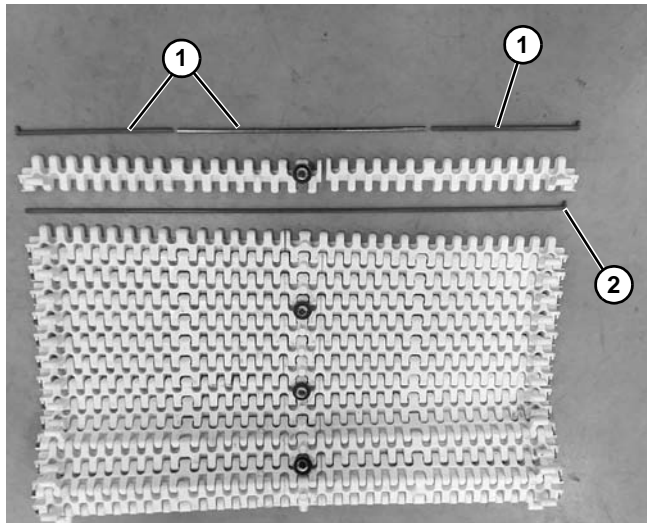

Figure 34
On 610 mm wide conveyors, **DO NOT** remove rods located at the bearing. These links are made up of 3 short rods (**Figure 34, item 1**), not a single piece rod (**Figure 34, item 2**).